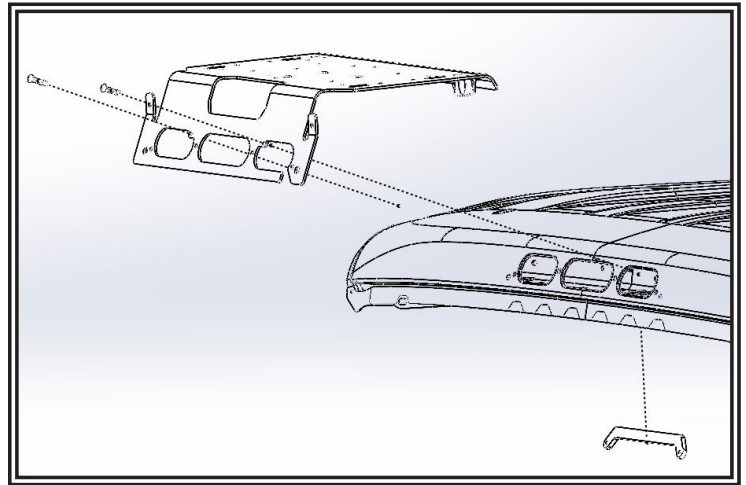

Figure 1
3. Align the mounting holes on the mounting plate with the third brake light mounting holes in the vehicle body as shown in FIGURE 1.